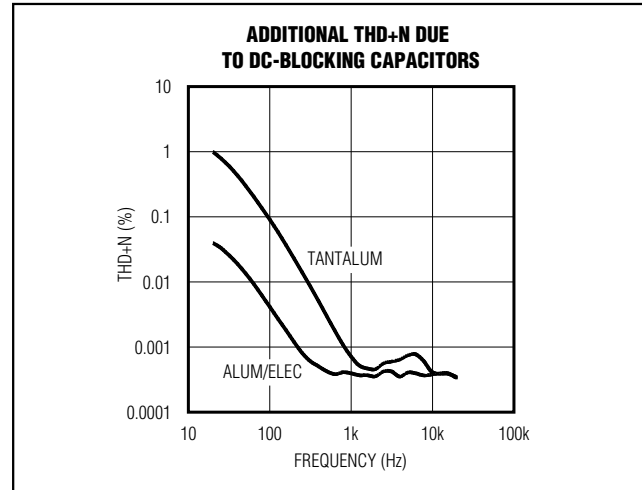

Figure 3. Distortion Contributed By DC-Blocking Capacitors
- 2) The voltage coefficient of the DC-blocking capacitor contributes distortion to the reproduced audio signal as the capacitance value varies as the function of the voltage across the capacitor changes. At low frequencies, the reactance of the capacitor dominates at frequencies below the -3dB point and the voltage coefficient appears as frequency-dependent distortion. Figure 3 shows the THD+N introduced by two different capacitor dielectric types. Note that below 100Hz, THD+N increases rapidly.